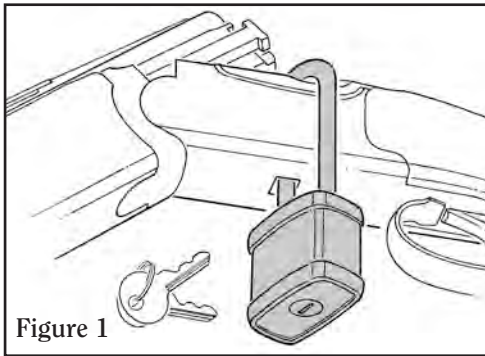

Figure 1
4. Open the lock and apply the lock to the gun by inserting the free end of the lock's shackle through the hole in the gun's receiver as show in Figure 1.